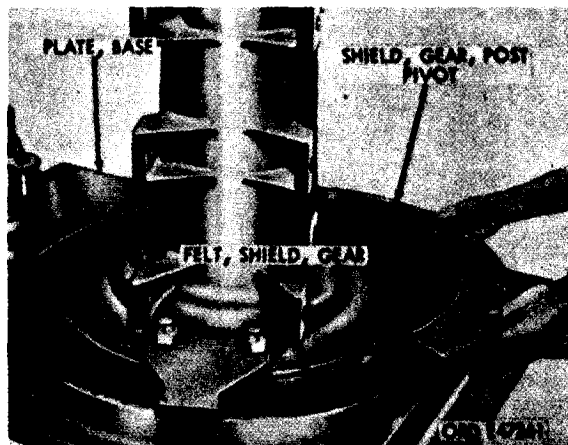

Figure 473. Removing pivot post gear shield from base plate
- (c)** Remove 18 cap screws with washers. Remove pivot post gear shield and gear shield felt from base plate (fig. 473).
- (a) Install drive pinion idler gear bearing snap rings (K and M), on inner diameter of drive pinion idler gear (L). If bearing cups were removed, press bearing cups (D and N) in drive pinion idler gear (L). Position bearing cones (C and P) in cups.
- (b) Install spacing washer (Q) in the bore for idler gear shaft, located in base Plate (J, fig. 480). Position drive pinion idler gear (L), with bearing assemblies, in gear housing of base plate (J, fig. 480) and insert drive pinion idler gear shaft (B) as shown in figure 473. Aline bore of idler gear with shaft and install shaft through gear in base plate.